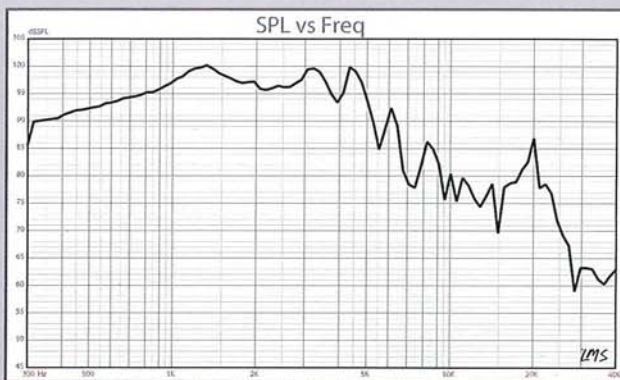

FIGURE 10: Faltal Pro 6PR150 on-axis frequency response.
**Figure 10** gives the on-axis response showing a smooth mostly flat response rising to a typical (for a 6.5") break point at 1.3kHz, declining in output about 4dB before beginning a series of breakup modes starting at 3.2kHz and continuing into the stop band of the driver's response.